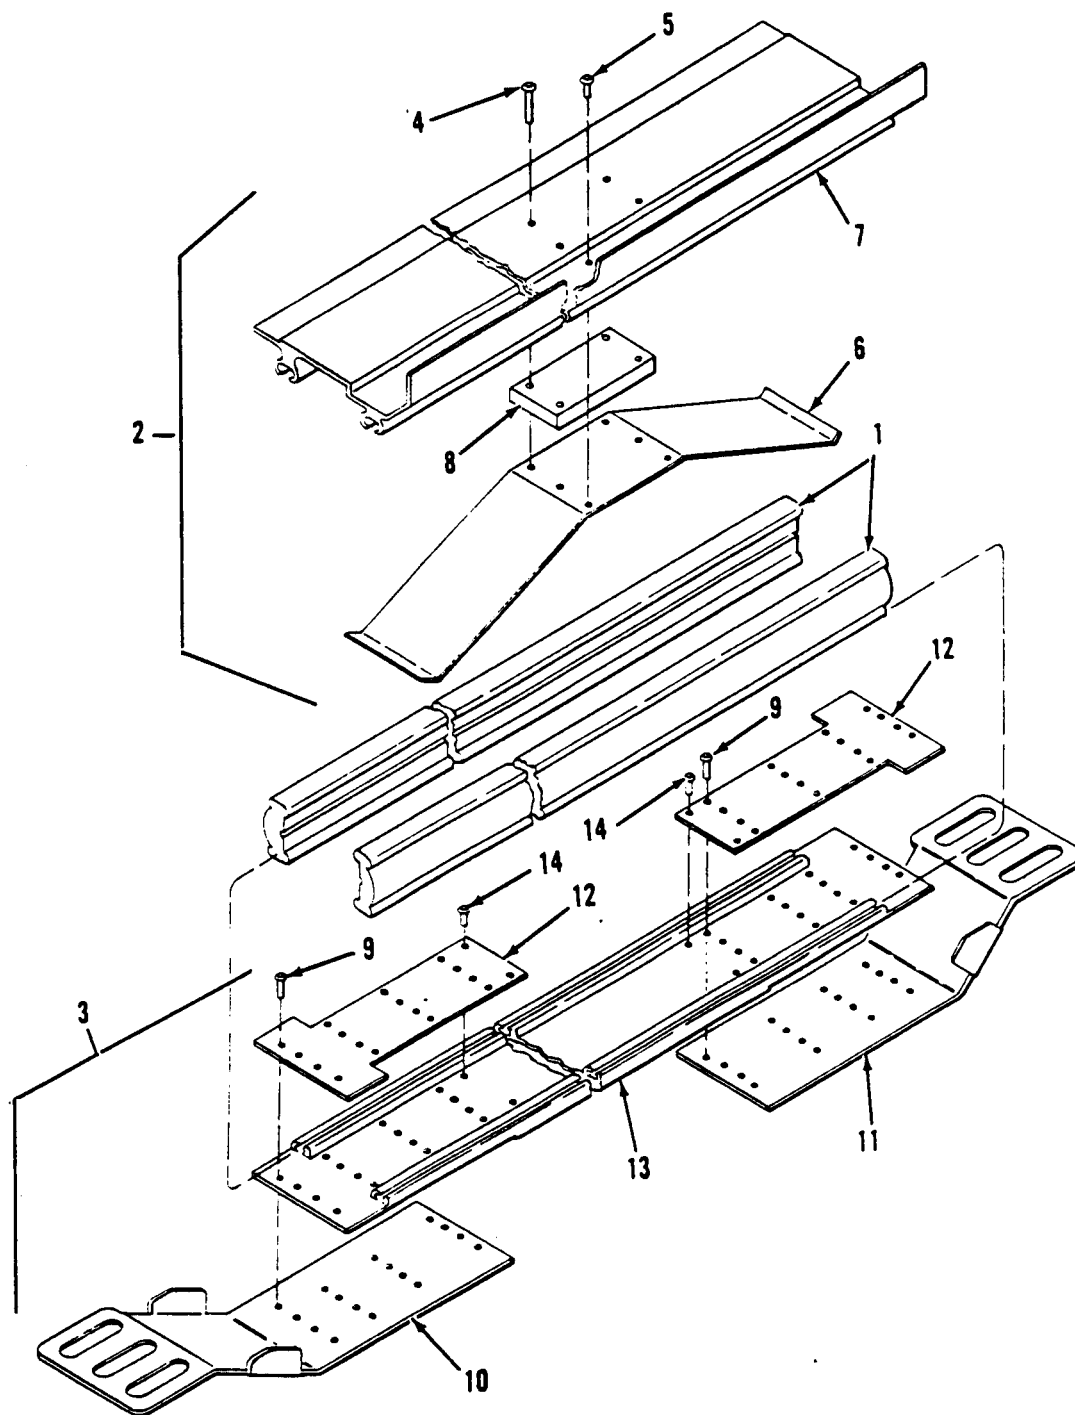

Figure 3-36. Skid Assembly Repair.
- (1) Inspect for secure mounting and dents.
- (2) Inspect for damage to skirts (1, Figure 3-36).
*c . Disassemble.* (Figure 3-36)
- (1) Pull skirt (1) out of mounting grooves of upper plate assembly (2) and nose plate assembly (3).
- (2) Drill out four rivets (4) and two rivets (5) attaching spring (6) to skid plate (7), and remove spring (6) and spacer (8).
- (3) Drill out 16 rivets (9) attaching each noseplate (10 and 11) to plate (12) and shoe (13).
- (4) Drill out two rivets (14) attaching each plate (12) to shoe (13) and remove plates (12) from shoe (13).
*e . Assemble.* (Figure 3-36)
- (1) Position each plate (12) in place on shoe (13) and secure with two rivets (14). (Refer to paragraph 3-9.a for rivet installation instructions.)
- (2) Position each noseplate (10 and 11) in place over each plate (12) and secure to plate (12) and shoe (13) with 16 rivets (9).
- (3) Place spring (6) under skid plate (7) and secure with four rivets (4) and two rivets (5).
- (4) Push each skirt (1) in mounting grooves noseplate assembly (3). Align grooves of upper plate assembly (2) with top flange of skirts (1) and push in place.